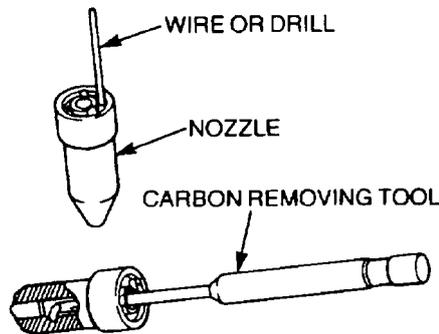

Figure 137 Nozzle Cleaning
- b. Using a suitable diameter wire or drill, clean the fuel feed passages in the nozzle (Figure 137).